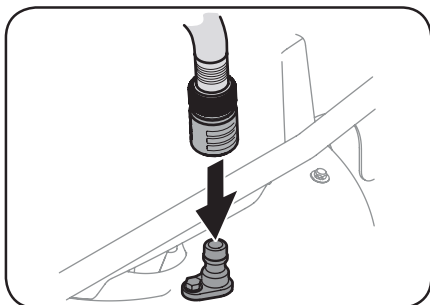

Figure 4-6
3. Attach garden hose with the deck wash nozzle to the water port on your deck's surface. See Figure 4-6.